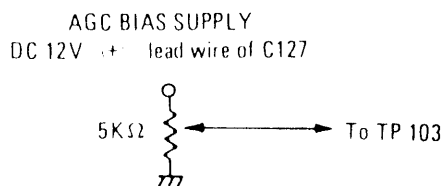

Fig. 1
3. Supply AGC bias voltage to TP103. (See Fig. 1)
1. Supply AGC bias Voltage to TP103. (See Fig. 1)